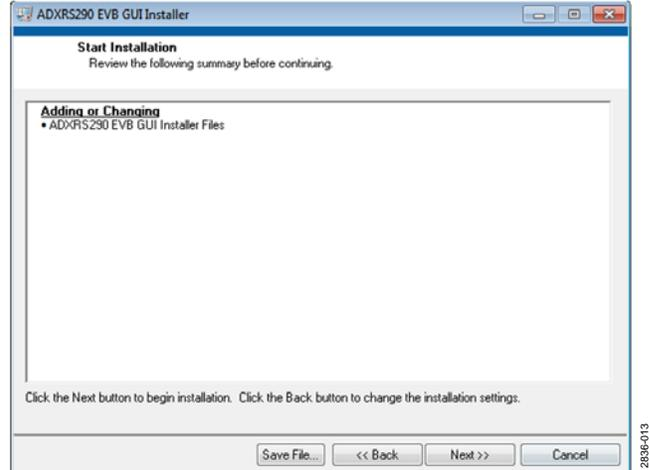

Figure 12. Start Installation (Listing Varies Based on PC Requirements)
3. Read the license agreement, accept it, and click **Next**. The installer lists the required components to install on your PC (see Figure 12).